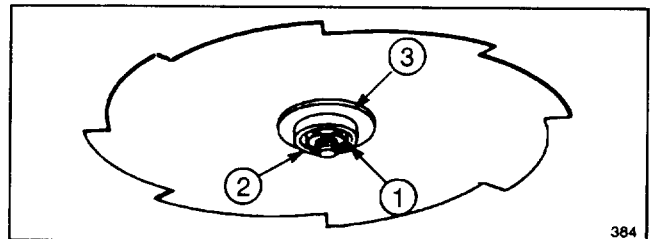

Figure 3
INSTALLING OPTIONAL CUTTER BLADE (Figs. 3 & 4)
5. Insert cotter pin through hole in shaft and wrap ends around shaft (Fig. 3).
- If cotter pin is missing or damaged, replace it. Insert new cotter pin through hole in shaft and wrap ends around shaft (Fig. 3).